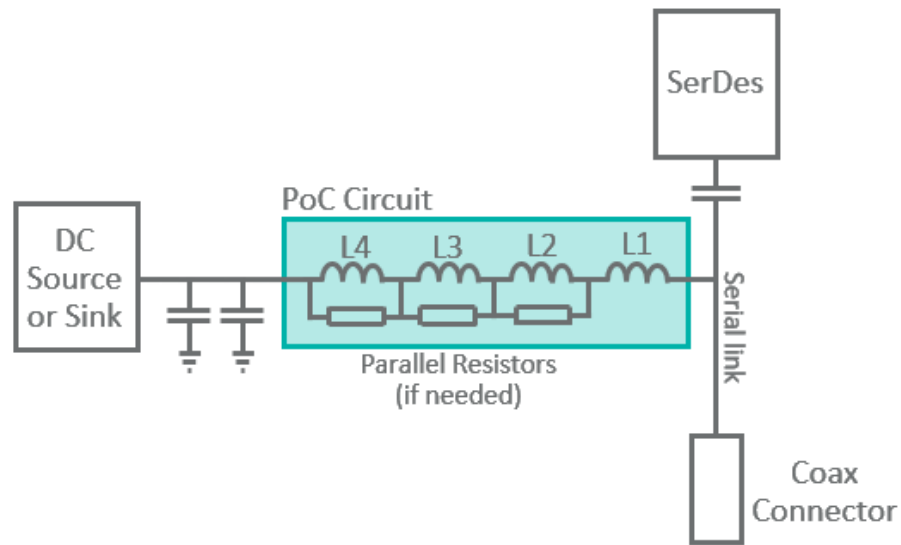

Figure 3.5.T. Schematic for PoC Reference Circuits
*Note the order of the inductors in Figure 3.5.T where L1 is placed on the serial link trace. Inductors should be arranged with the lowest inductance component on the serial link and highest inductance on the DC side of the filter. Also note the placement of parallel resistors, which are denoted in the following tables as “inductor || resistance value.”